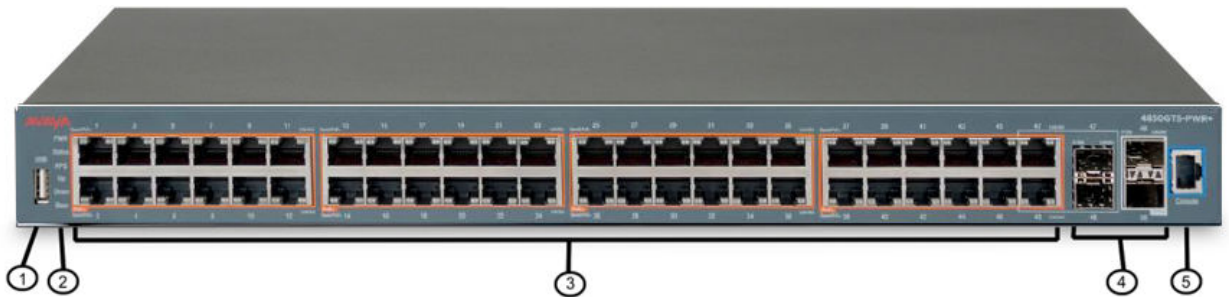

Figure 21: Avaya Ethernet Routing Switch 4850GTS-PWR+
- Figure 21: Avaya Ethernet Routing Switch 4850GTS-PWR+ on page 57